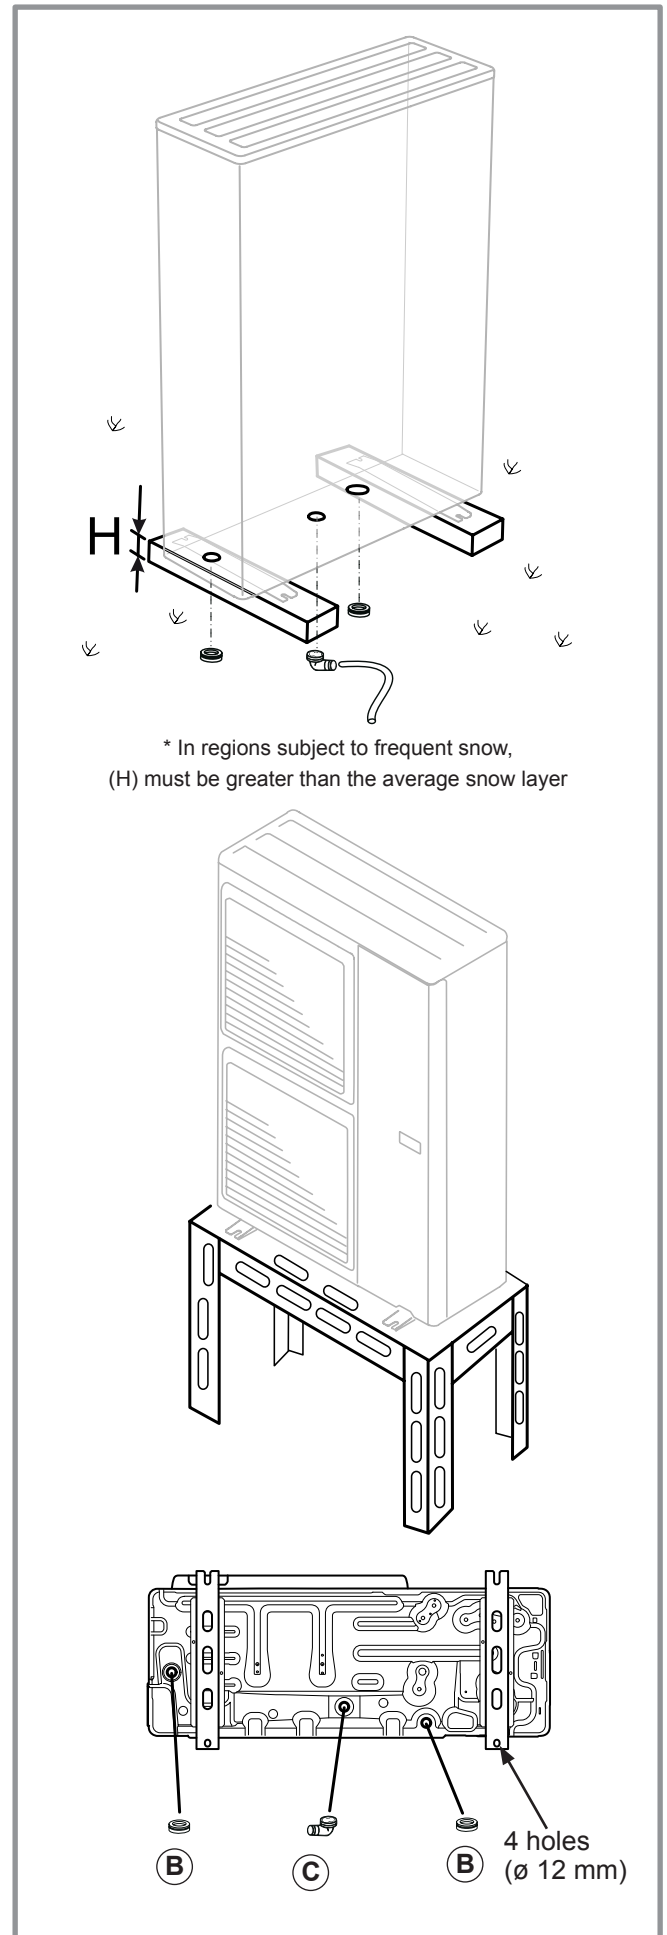

figure 13 - Positioning of the Outdoor unit, draining away the condensate
- Water may drain away from the outdoor unit when it is operating. Do not install the appliance on a paved terrace; choose a well-drained place (e.g. gravel or sand). If the installation is in an area where the temperature can be lower than 0°C for a long period, check that the presence of ice does not present any danger. A drainage pipe can also be connected to the outdoor unit (figure 13).
The outdoor unit must be raised at least 50 mm above ground level. In areas prone to snow, this height should be increased but should not exceed 1.5 m (figure 13).
(see figure 13).